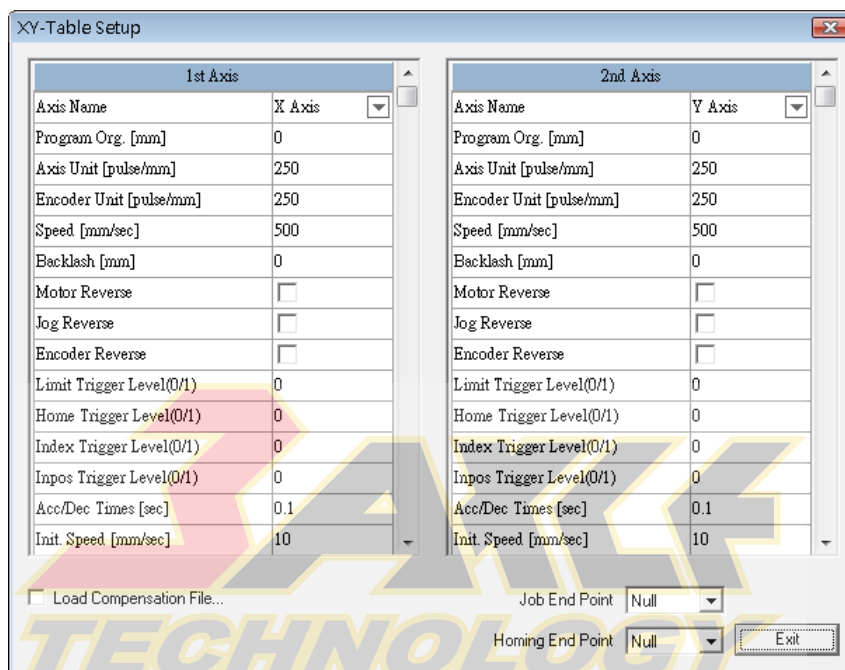

Fig. 7.2.03
6. Click “SETUP...” and do more detail settings, see Fig.7.2.03.